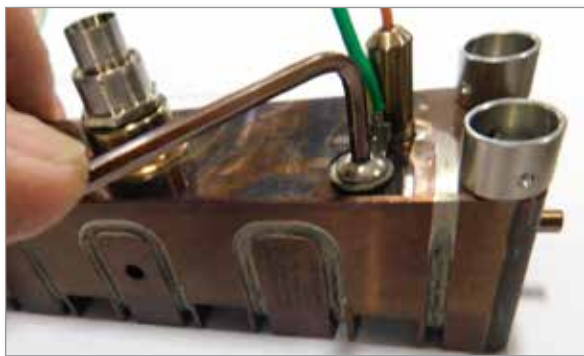

Figure 19-14 Secure the ground wire
2. Secure the ground wire with the retaining screw. See Figure 19-14.